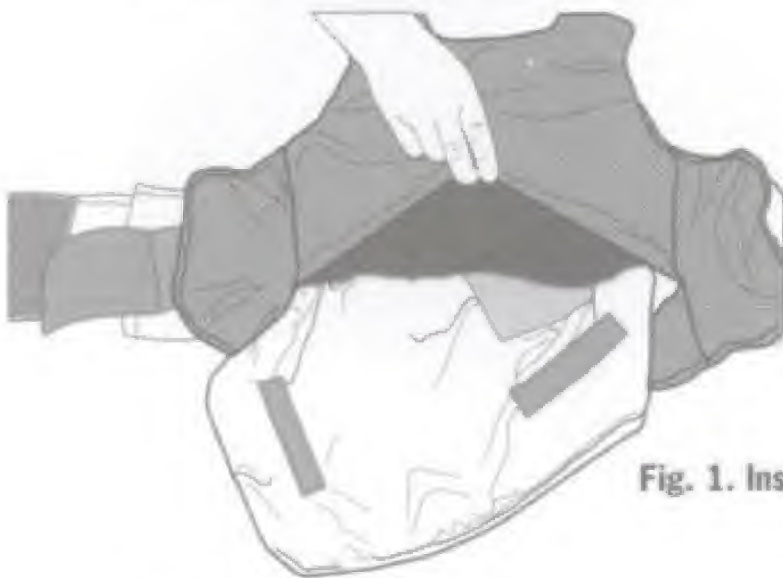

Fig. 1. Installation of Ballistic Insert.
2. Separate hook and pile seam and install Ballistic Insert with the label side up as shown in Fig. 1. Position Insert, aligning the hook and pile tapes and ensuring the IOTV material is smooth and flat after the installation.